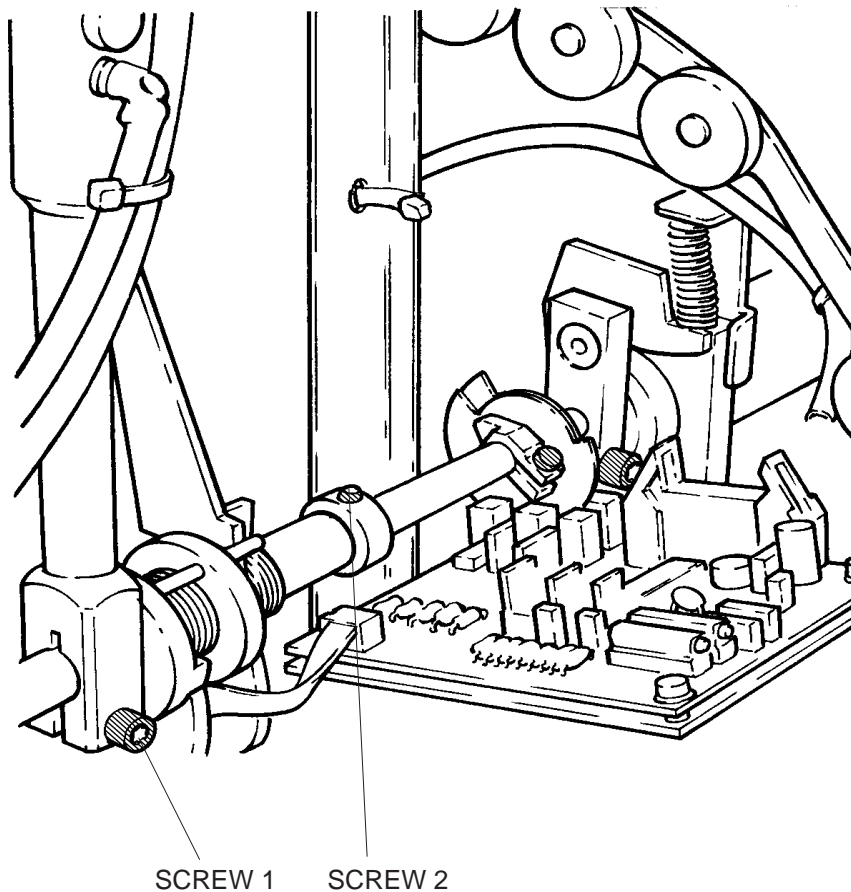

figure 3-48
58. Move the COLLAR with SCREW 2 to the left as far as possible and tighten SCREW 2. See figure 3-48.